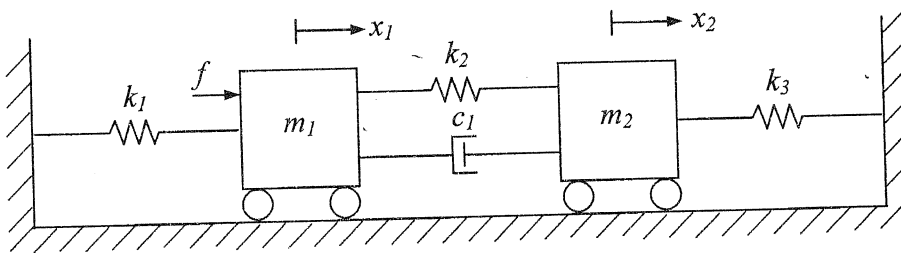

Figure 03
- (5.3) Consider the mechanical system shown in figure 03 below. The masses move along the ground with out slipping.